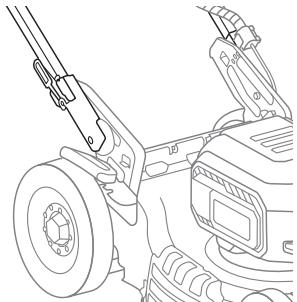

Fig. 2C
3. Release the handle adjustment levers and continue pivoting the handle until you hear a click, indicating the lock pins on both sides have engaged in the locked position (Fig. 2C).